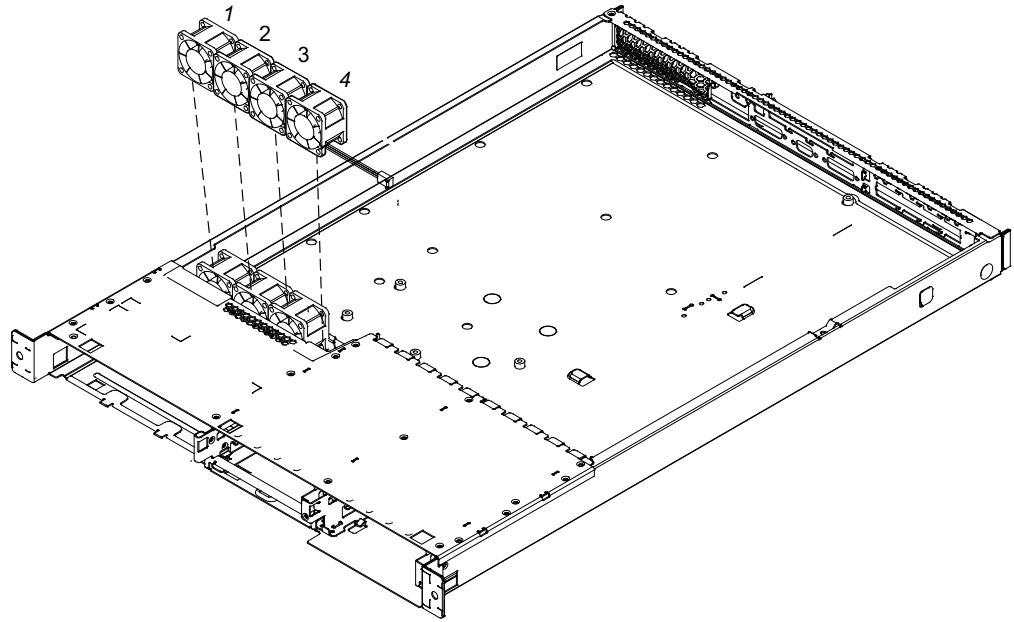

Figure 89. Removing a microprocessor fan
4. Refer to Figure 89 on page 141.
6. The fans are numbered from one to four, from left to right. See Figure 89. Lift the fan upward out of the retaining clip.